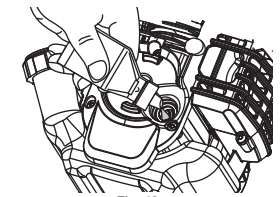

Fig. 40
- Refill the crankcase with 3.04 fluid ounce (90 ml) of SAE 30 SF, SG, SH oil (Fig. 40).